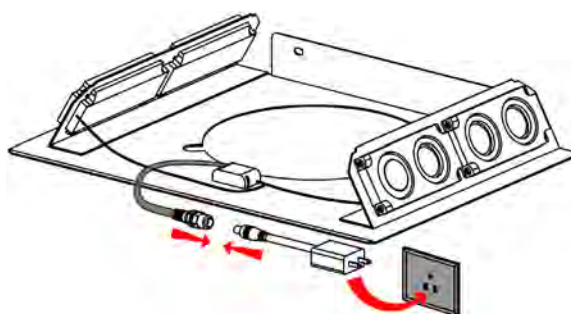

*Figure 2*
2. Attach ducting and electrical connections. Plug the speakers into an outlet behind the chimney. When the connection is successful, a chime will sound. *Figure 2*